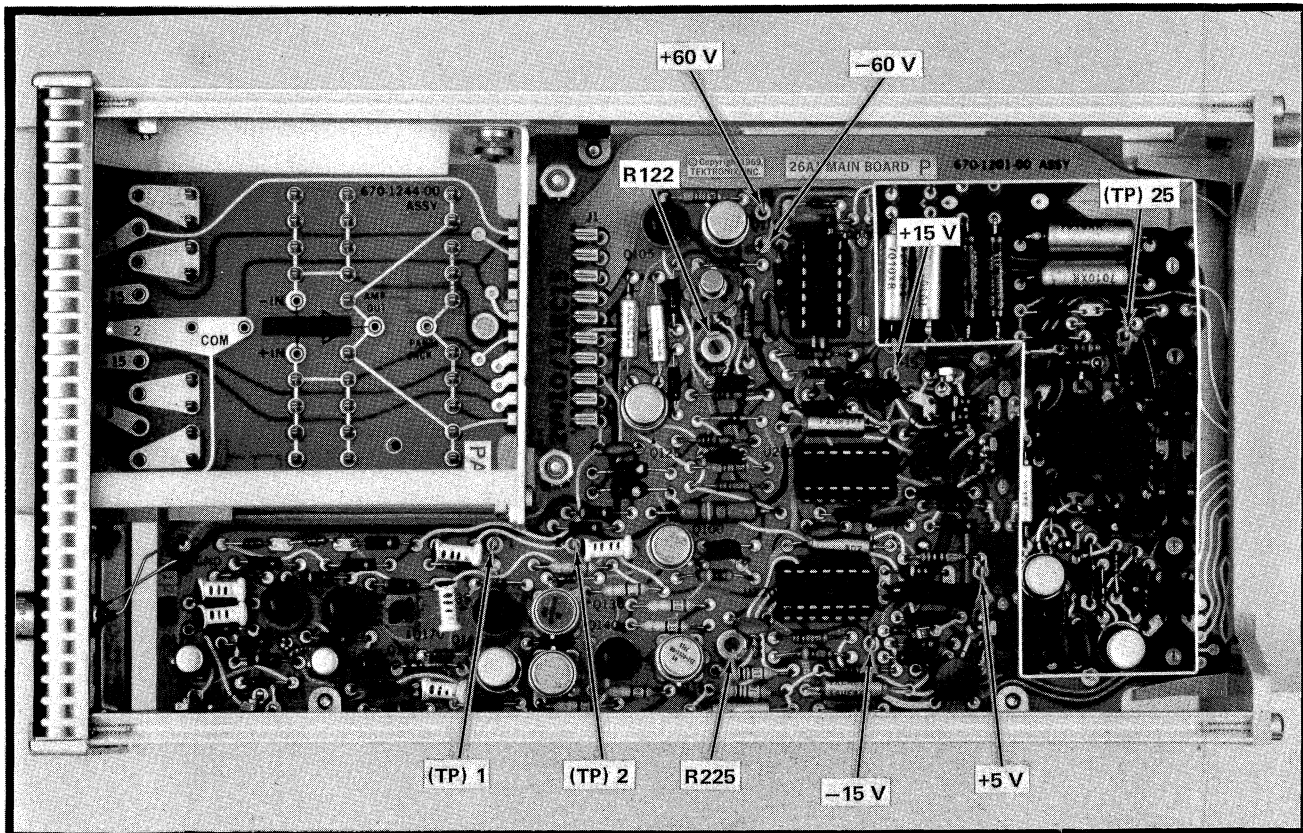

Fig. 5-8. Locations of Controls and Test Points.
1. Adjust -15-volt Supply (R225) ❶
- a. Connect a 1X probe from Differential Comparator +Input to -15-volt Test Point (see Fig. 5-8 for location).
d. ADJUST—R122 to set the trace as close as possible to zero volts (graticule center). See Fig. 5-8 for location of R122.